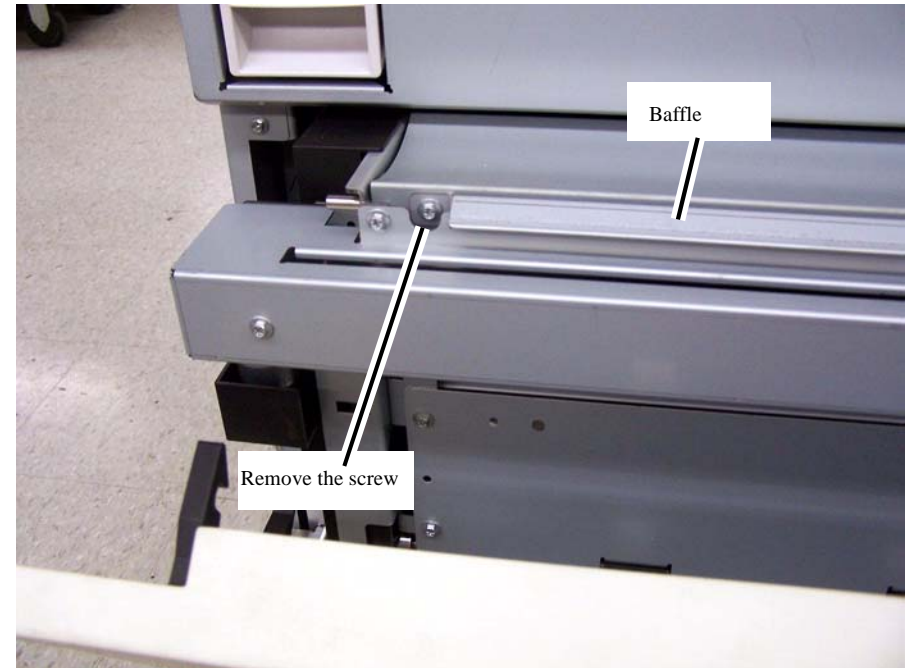

Figure 2 Removing the left Baffle screw
- b. Remove the screw at the left end of the Baffle (Figure 2).